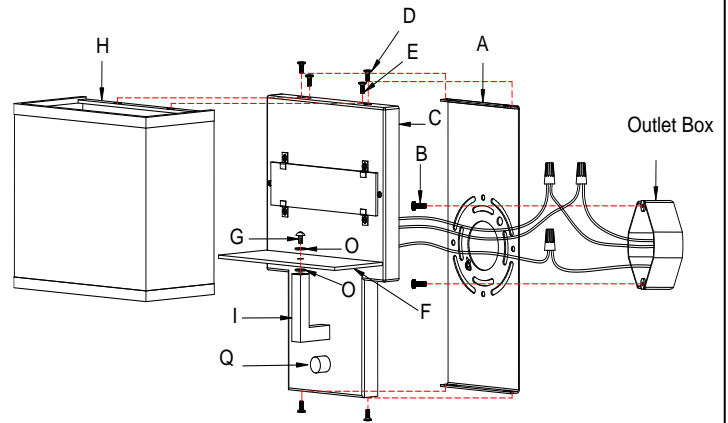

Fig.2
CONNECTING THE WIRES (FIG. 2)
4. At this point, connect the electrical wires as shown in Fig. 2, making sure that all wire connectors are secured. If your outlet has a ground wire (green or bare copper), connect the fixture ground wire to it. Otherwise, connect the fixture ground wire directly to the mounting plate (A) using the green screw provided. After wires are connected, tuck them carefully inside the junction box.
5. Align fixture back plate (C) onto mounting back plate (A) and secure with screws (D).